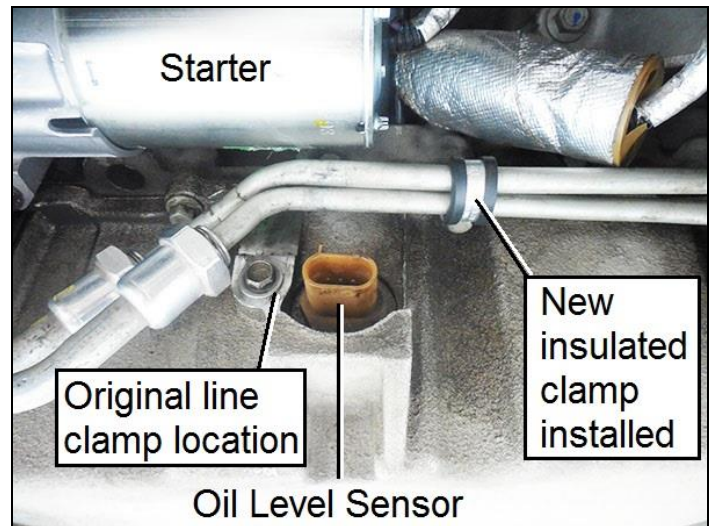

Figure 2
3. Remove the line clamp at the oil pan below the starter and next to the oil level sensor (**Figure 2**).
4. Unplug the oil level sensor (**Figure 2**).
8. Install the insulated clamp around the cooler lines and attach the clamp to the oil pan bolt (**Figure 2**).
9. Adjust the lines after the clamp is installed for clearance at the starter and the bell housing (**Figures 2 & 3**).